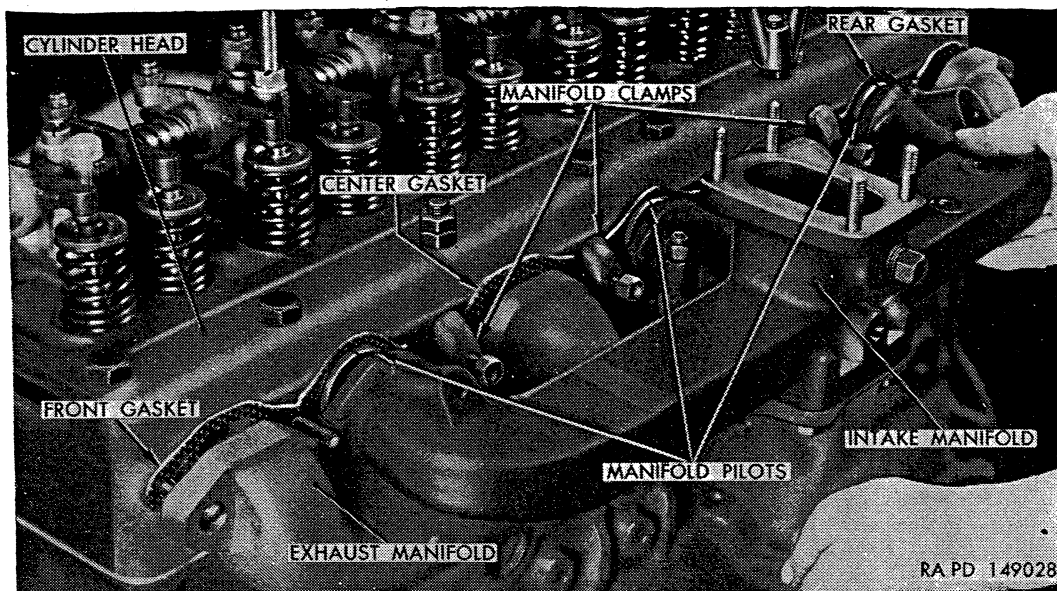
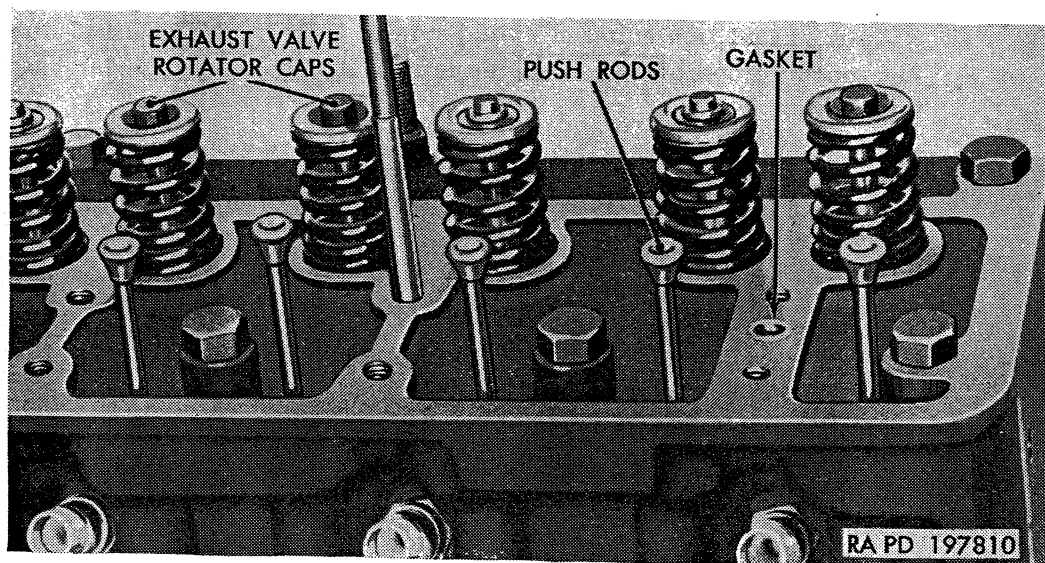
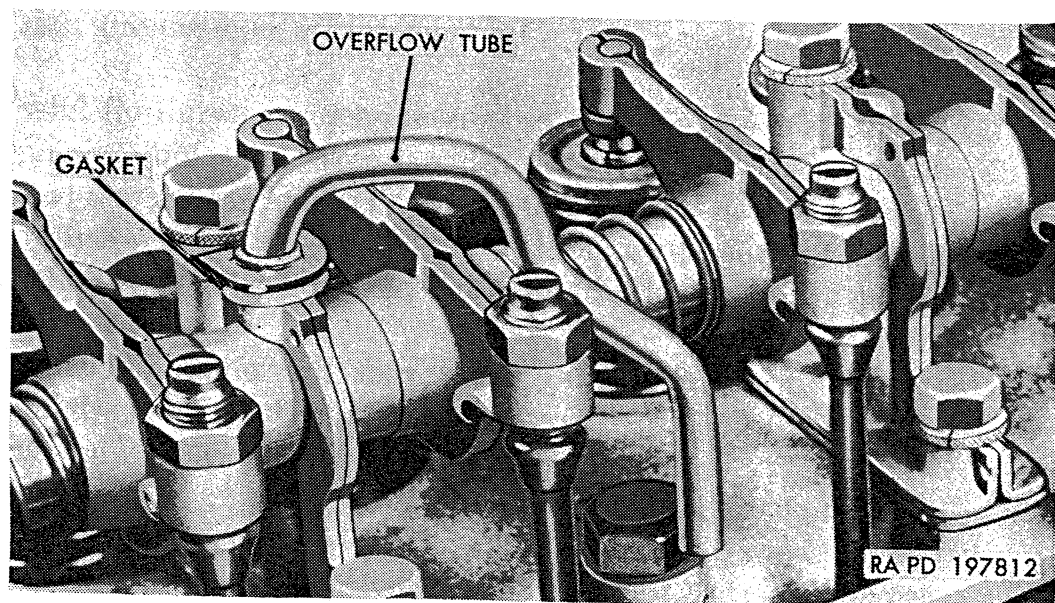

Figure 97. Installing manifolds.
Figure 103. Push rod and bracket gasket installed.
Figure 105. Rocker arm shaft overflow tube installed.
- (5) On vehicles equipped with engine primer, disconnect primer line at fitting at rear of manifold.
- (6) Remove stud nuts and washers from two studs in cylinder head at each end of manifold assembly. Pull governor line clip or bracket off rear stud. Loosen balance of stud nuts sufficiently to permit turning clamps (fig. 97) to vertical position. Pull manifold assembly away from cylinder head and remove from vehicle.
- (7) Remove manifold gaskets and pilots from cylinder head.
- (8) To separate manifolds, remove stud nuts and bolts, separate the manifolds, and remove gasket. Primer lines and fittings may be removed from intake manifold if engine is so equipped. Discard gasket.
- (1) Assemble manifolds, using new gasket between intake and exhaust manifolds. Install bolts and stud nuts, but do not tighten until after manifold assembly is mounted on cylinder head. Accelerator lever spring bracket must be installed and retained by rear stud nut.
- (2) Insert three manifold pilots in counterbores in cylinder head and locate gaskets at cylinder head as shown in figure 97. Place four clamps on manifold studs and start nuts on threads. Set manifold assembly in place (fig. 97) at cylinder head and turn clamps to hold in place.
- (3) Install washers and stud nuts on end studs, attaching governor line clip bracket at rear stud. Tighten two stud nuts at
- (9) Remove nut from exhaust pipe heat shield brace stud at cylinder block, and loosen clamp connecting front and rear exhaust pipes.
- (10) Remove nuts from manifold studs; then remove clamps and washers from all studs. Force manifold assembly away from cylinder head and insert block between exhaust pipe and cylinder block to hold manifold away from cylinder head while replacing cylinder head.
- (11) Remove two stud nuts (R) which retain cylinder head cover to cylinder head. Remove cover and gasket.
- (12) Remove rocker-arm-shaft-bracket-to-cylinder-head bolts and lockwashers, and remove stud nuts from two long studs. Overflow tube and gasket (fig. 105) are held by long bolt at fourth bracket. Lift off rocker arms, shaft, and brackets as an assembly.
- (13) Remove 12 push rods from holes in cylinder head, and remove gasket (fig. 103) at oil passage in cylinder head at shaft bracket.
- (4) Place intake manifold pilots and new manifold gaskets at cylinder head. Place four manifold clamps (fig. 97) and nuts on four studs, with clamps turned to permit installation of manifold assembly.
- (5) Lift manifold assembly into place at cylinder head, turn clamps to engage manifolds, and tighten sufficiently to hold manifold in place. Install special washers and nuts on two studs at each end of manifold assembly. Governor line clip bracket must be mounted on rear stud. Tighten all manifold stud nuts evenly and finally tighten four end stud nuts to 25 to 30 pound-feet torque; tighten nuts at manifold clamps to 15 to 20 pound-feet torque. Install and tighten clamp which connects front exhaust pipe to rear exhaust pipe.
- (6) Connect accelerator and choke controls and install nut on heat shield brace stud at cylinder block.
- (7) Insert 12 push rods (fig. 103) through push rod holes in cylinder head. Lower end of push rods must seat in sockets in valve tappets.
- (8) Place copper-asbestos gasket (fig. 103) in recess at rocker arm shaft front bracket position on cylinder head.
- (9) With exhaust valve rotator caps (fig. 103) in place on exhaust valves, place the rocker arms, shaft, and bracket assembly over long studs and onto cylinder head. Install one  $\frac{3}{8}$ -inch lockwasher and  $\frac{3}{8}$ -24 nut on each long stud. As stud nuts are tightened, spherical ends of rocker arm adjusting screws must seat into cups at upper end of push rods. Install four  $\frac{3}{8}$ -24 x  $3\frac{1}{4}$  bolts and  $\frac{3}{8}$ -inch lockwashers and six  $\frac{3}{8}$ -16 x  $1\frac{1}{8}$  bolts with  $\frac{3}{8}$ -inch lockwashers at rocker arm shaft brackets. Overflow tube assembly and new gasket must be assembled at No. 4 bracket as shown in figure 105. Tighten bolts and stud nuts to 20 to 30 pound-feet torque.